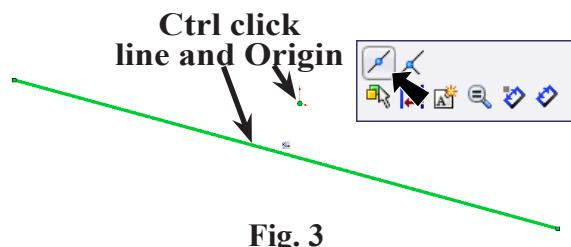

Fig. 3
Step 5. Ctrl click line and Origin to select both. Release Ctrl key and click Make Midpoint on the Content menu, Fig. 3.